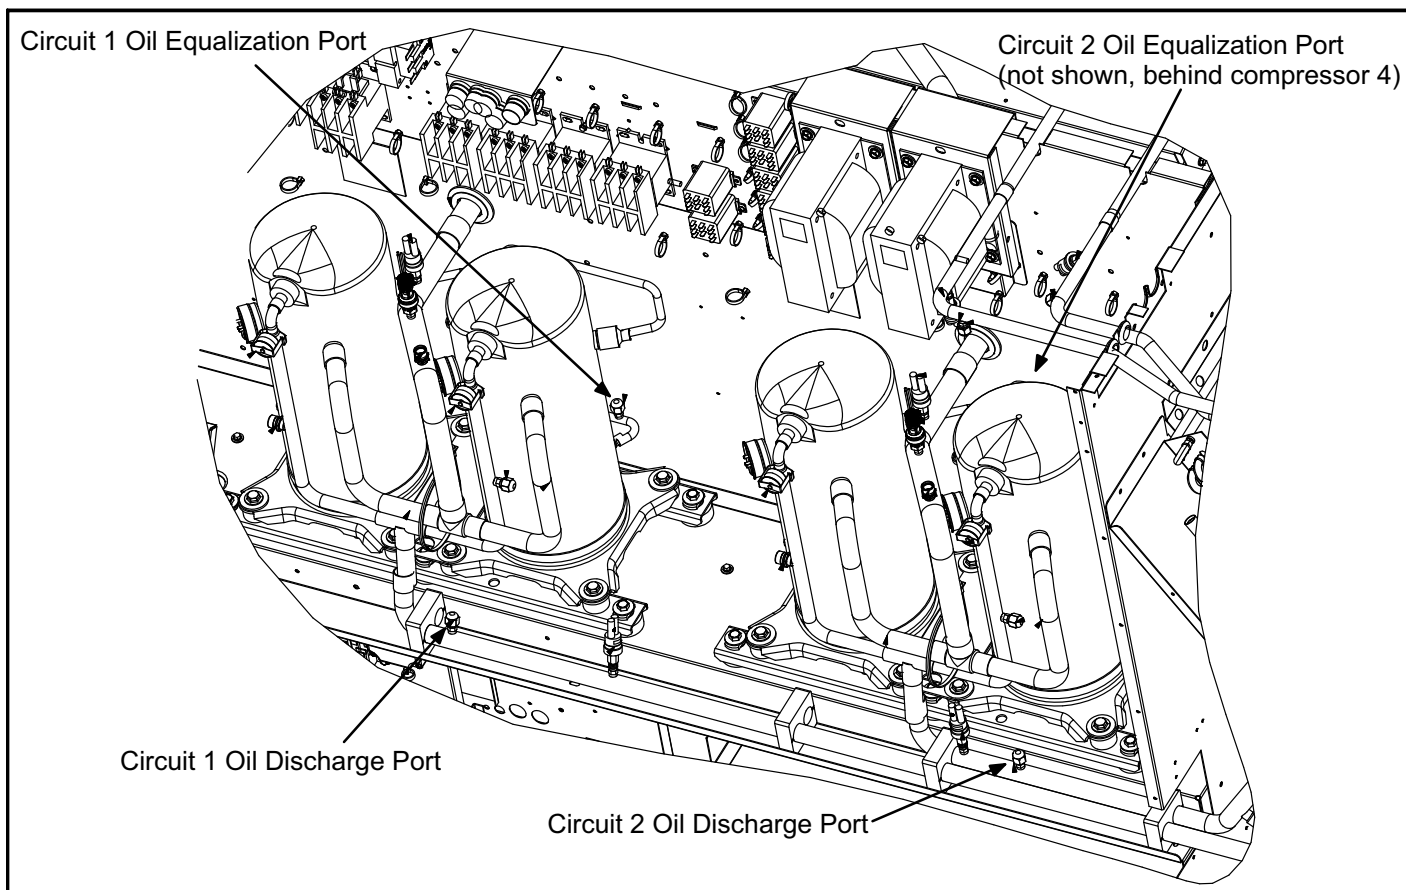

FIGURE 31
- 1- Run the unit in full load (both compressors running) for a minimum of thirty (30) minutes or until compressor sump superheat is above 20°F.
- 4- With the unit running in full load, connect the high side manifold gauge hose to the open pressure tap fitting on the common discharge line (see Figure 31). Briefly crack the high side manifold gauge valve to purge the high side and middle manifold gauge hoses.
- 10- Lightly thread the hose coming from the oil container onto the pressure tap fitting provided on the oil equalization line located near the base of the compressors (See Figure 31). Do not depress the Schrader Valve..